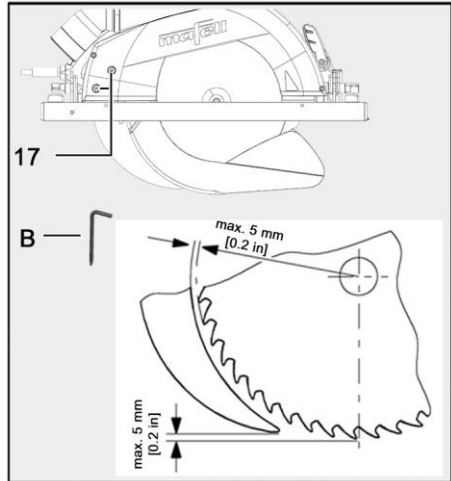

Fig. 12: Distance riving knife to saw blade
2. Using the Allen key (B) provided, turn the screw (17) **counterclockwise** to adjust it.
- Do not exceed the maximum distance to the saw blade (see Fig. 12: Distance riving knife to saw blade).
4. Using the Allen key (B), turn the screw (17) **clockwise** to tighten it.